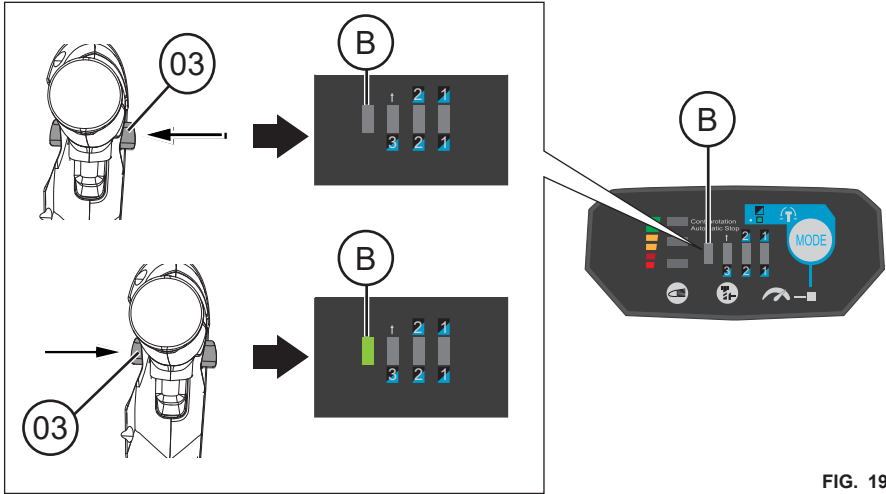

FIG. 19
The direction indicator (B) shows the rotation direction determined by the direction selector (03) (FIG. 19)